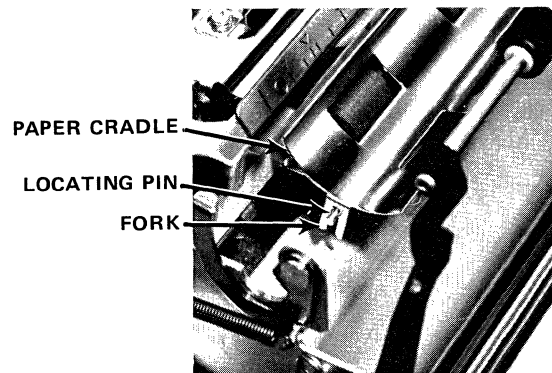

Figure 4-29. PAPER CRADLE
- 4) Check that the paper cradle (Fig. 4-29) is properly positioned with the retaining forks of the cradle positioned over the locating pins.